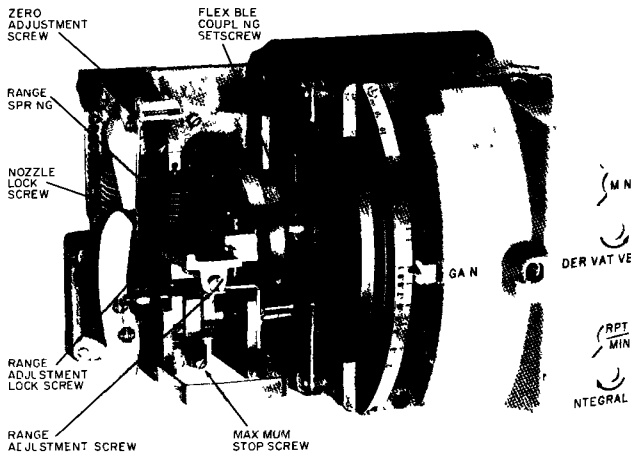

FIGURE 8 Gain Control Mechanism Adjustments
2. Check position of cam follower roller on cam. If cam roller is not on cam zero mark (second line), rotate gain control zero adjustment screw (Figure 8) until cam position is correct.
7. Output pressure should be 13.41 for 3-15 psig units and 23.82 for 3-27 psig units. If output pressure is not correct, loosen range adjustment locking screw (Figure 8) and turn range adjustment screw to provide full range output.
7 Loosen range adjustment locking screw (Figure 8) and turn range screw to position range spring approximately in line with zero adjustment assembly. Tighten range adjustment locking screw.
9. Check position of cam follower roller on cam. If cam roller is not on cam zero mark (second line), rotate gain control zero adjustment screw (Figure 8) until cam position is correct.
15. If output pressure is not correct, loosen range adjustment locking screw and turn range adjustment screw to provide correct output pressure (see Figure 8).
14. Output pressure should be 3.92 psig for 3 to 15 psig units, 4.84 psig for 3 to 27 psig units. If output pressure is not correct, loosen range adjustment locking screw (Figure 8) and turn
12. Loosen range adjustment locking screw (Figure 8) and turn range screw to position range spring approximately in line with zero adjustment assembly. Tighten range adjustment locking screw.
15. Check position of cam follower roller on cam. If cam roller is not on zero mark (second line), rotate gain control zero adjustment screw (Figure 8) until roller position is correct.
20. Output pressure should be 5.34 psig for 3 to 15 psig units, 7.68 psig for 3 to 27 psig units. If output pressure is not correct, loosen range adjustment locking screw (Figure 8) and turn range adjustment screw to provide correct output.